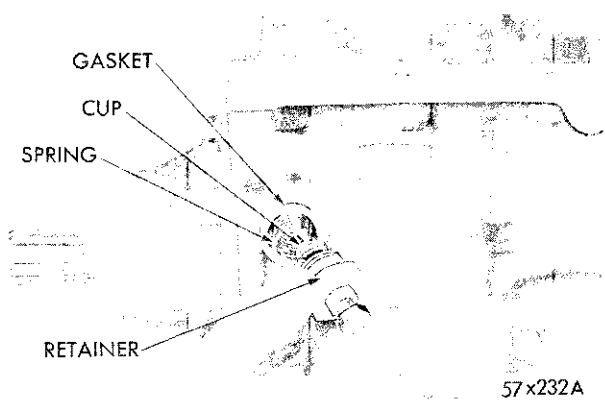
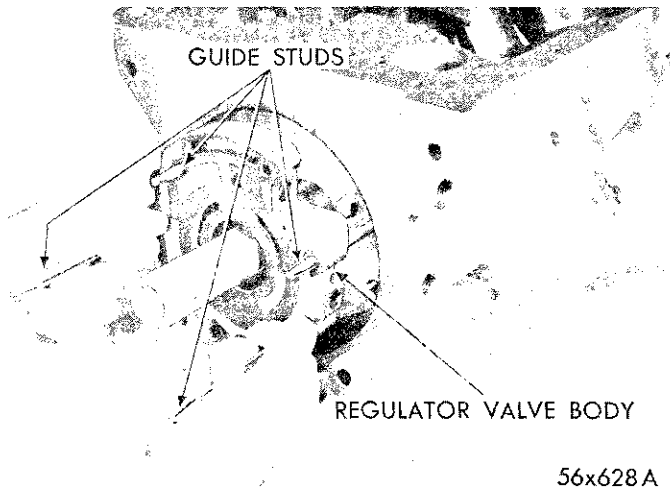

Fig. 51—Removal and Installation of Regulator Valve Retainer
Fig. 55—Removing Regulator Valve Body
(1) Remove the transmission regulator valve spring retainer, gasket, cup, spring, sleeve and valve (Figs. 51, 52 and 53).
(2) Remove the torque converter valve retainer, gasket, spring and valve. A mechanical retriever, such as a piece of welding rod, will aid in removing these valves by inserting it in the end of the valve.
(3) Install guide studs, Tool C-3288, and using the two threaded holes provided in the regulator valve body, install the guide studs, Tool C-3283, as shown in Figure 55.